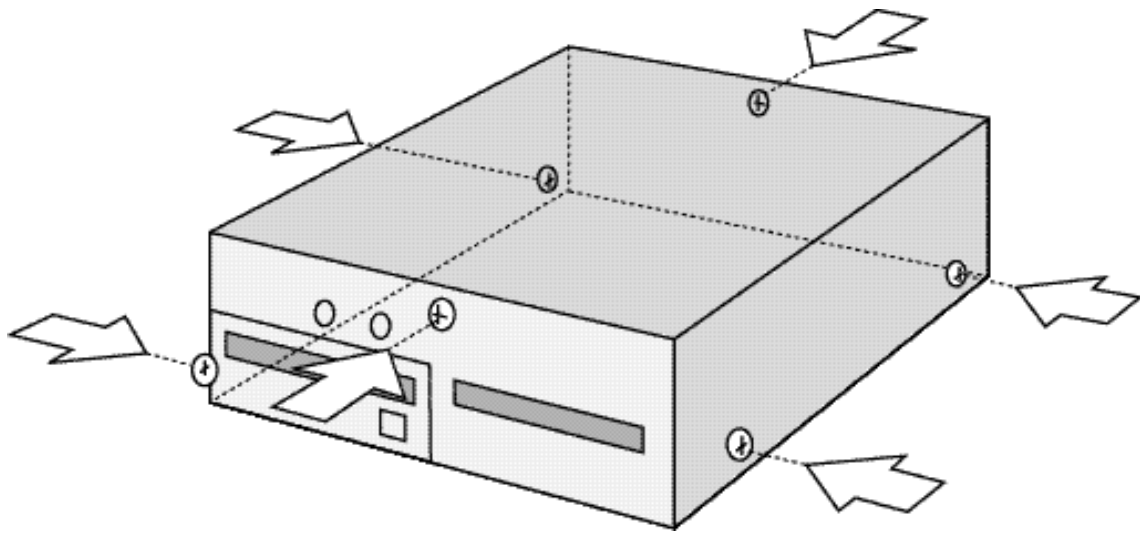

Fig1.
- (1) Remove the six screws from the ROM Writer's case top. (Fig. 1)
- (2) Remove the ROM Writer's case top.
- (3) Remove the two screws that hold the CARD-PC connector in place.